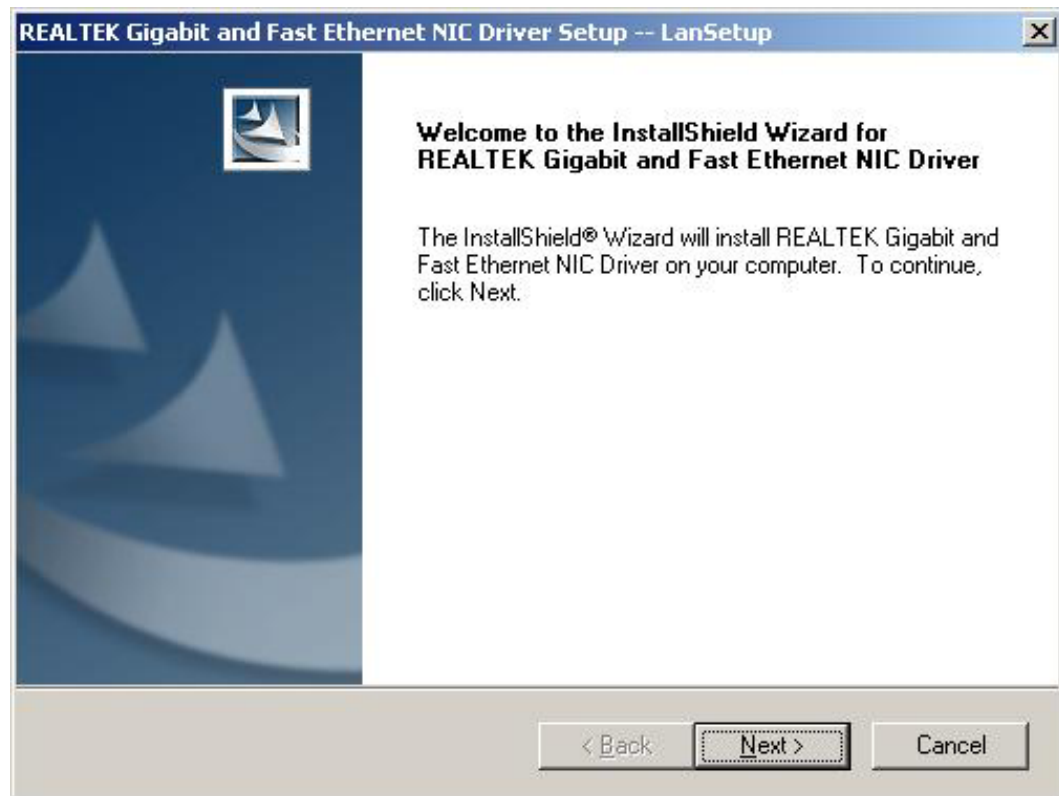

Figure 6-22: Install Wizard Welcome Screen
Step 6: Once initialized, the **Install Wizard** welcome screen appears (**Figure 6-22**).